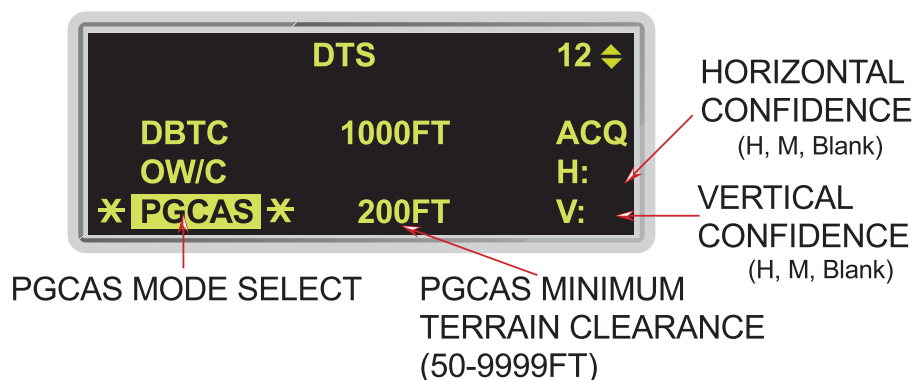

Figure 2-1 DTS Priority Page
- 3) Blanking TRN Horizontal and Vertical Confidences: When TRN is in Acquisition, the TRN Horizontal and Vertical Confidences on the DED DTS Priority page (Figure 2-1) are blanked. In M1, the TRN Horizontal and Vertical Confidences were displayed when TRN was in Acquisition.